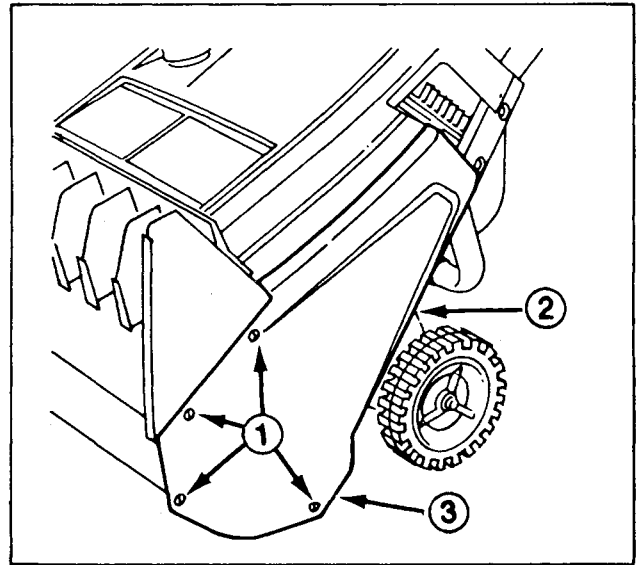

Fig. 8
REPLACING DRIVE BELT (Fig. 8, 9 & 10)
2. Remove screws, locknuts and washer faced capscrew (Fig. 8). Set belt cover aside.